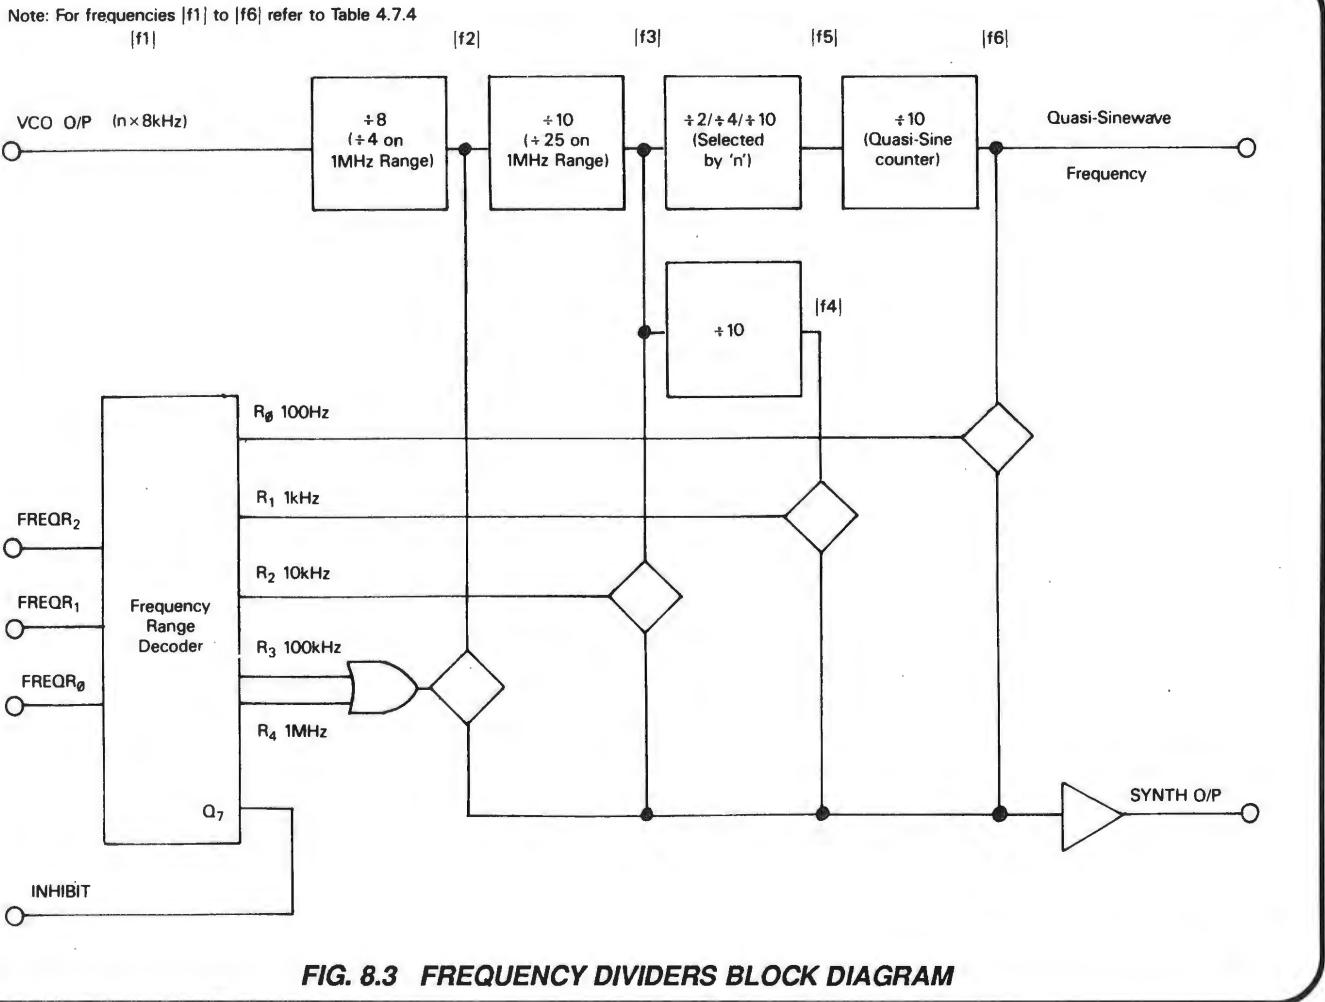

FIG. 8.3 FREQUENCY DIVIDERS BLOCK DIAGRAM
8.1.3 FREQUENCY RANGE DIVIDERS (Fig 8.3)
8.1.3.2 Ratio Selection by Frequency Range (Fig. 8.3 and Table 8.2)
8.1.3.3 Frequency Synthesis for the Quasi-Sinewave Generator (Fig. 8.3 and Table 8.3)